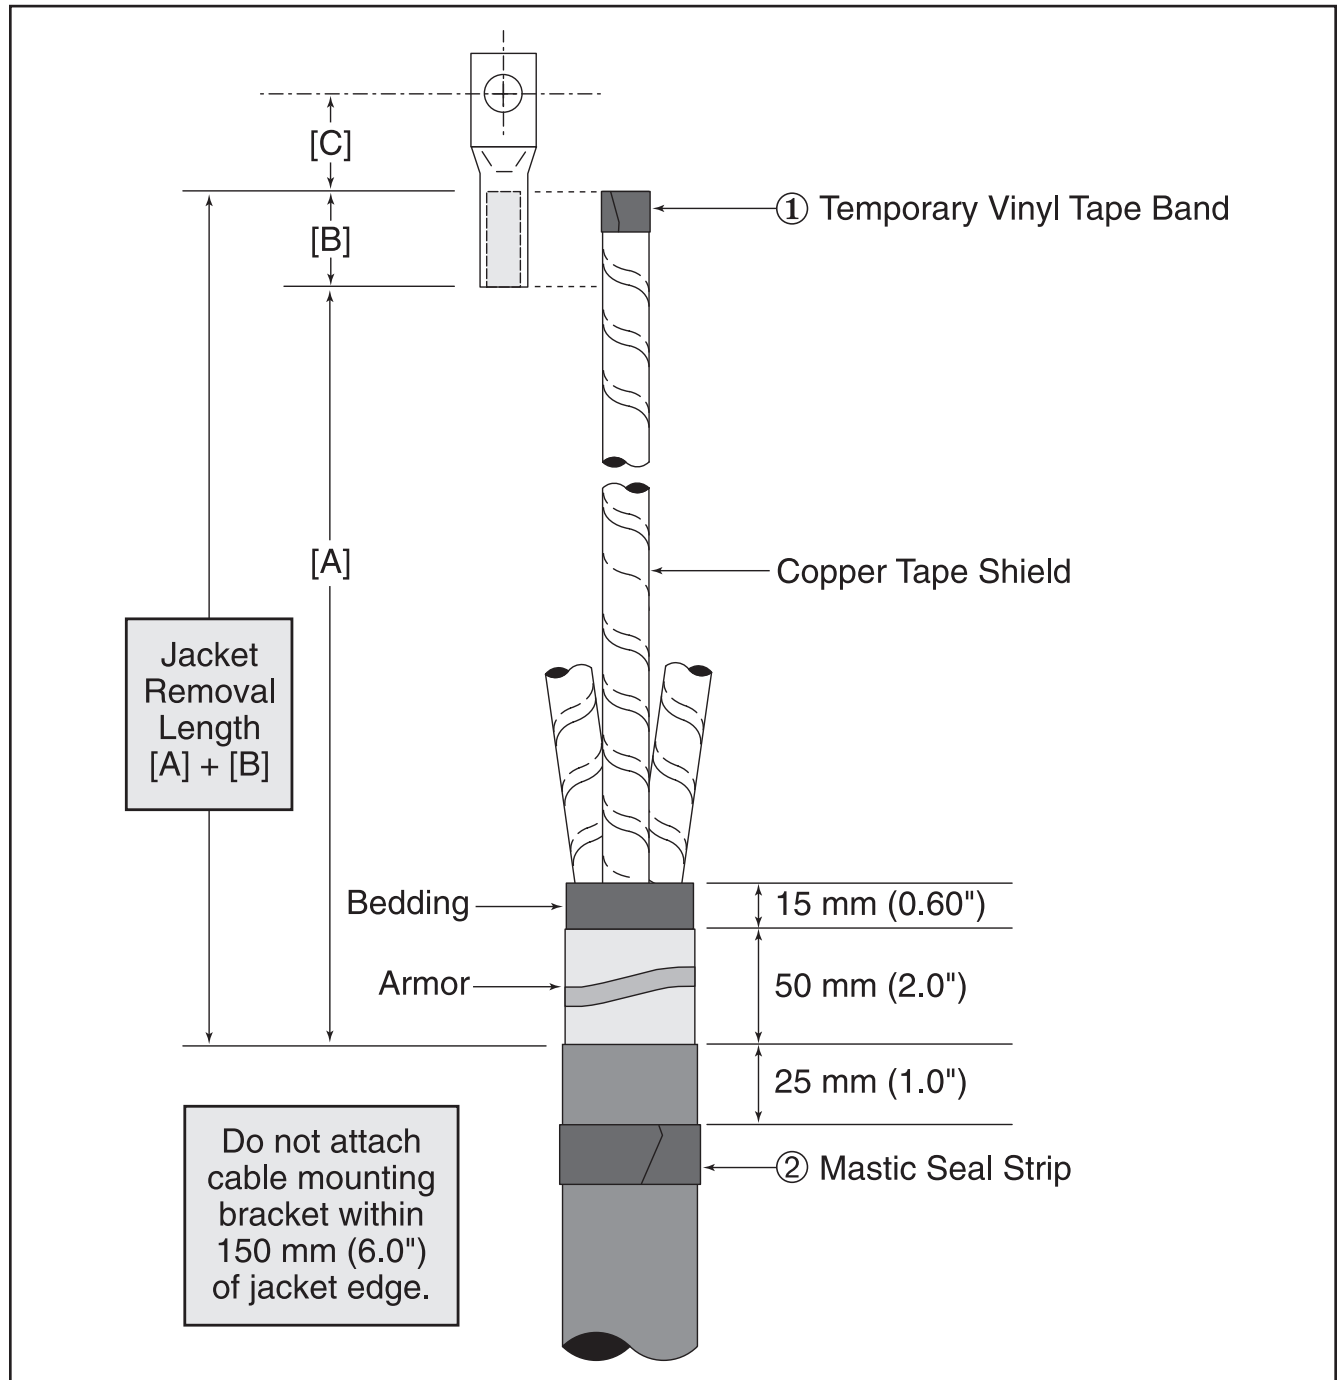

Figure 1
- 1.1 Determine cable jacket removal length required for correct phase spacing and bolted terminal lug connections ([A] + [B] Figure 1, based on the longest phase to be connected). Allow for dimension [C] as needed.
- 1.2 Remove cable jacket, armor, bedding (inner sheath) and core fillers according to Figure 1 dimensions. Secure each copper tape shield end with a temporary band of vinyl tape (① Figure 1).
- 1.3 Using light tension, wrap a mastic seal strip around cable jacket 25 mm (1.0") below the cut edge (② Figure 1).